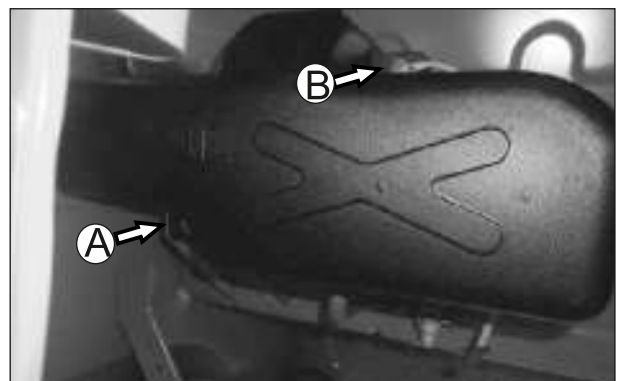

Fig. 4.4
- Loosen and remove 1 no. Hexagonal flange bolt (M6x25) along with a punched washer and a spring washer from fuel tank assembly mounting (A). (Fig. 4.4)
- Loosen and remove 1 no. Hexagonal flange bolt (M6x60) along with a punched washer, a spring washer and bush fuel tank from fuel tank assembly mounting (B). (Fig. 4.4)